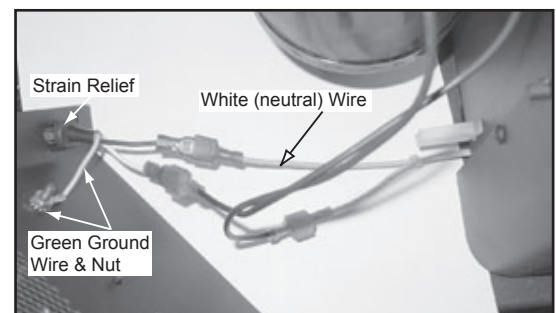

Figure 22.5
10. On the left side panel attach the power cord strain relief into the hole that is located on the lower left. Attach the ground terminal to the stud that is located nearest the power cord (**Figure 22.5**).
11. Attach the white lead (neutral) directly to one of the leads coming off the blower. Attach the other blower lead to the female spade connector to the harness that is routed under the unit. Attach the male spade connector on the harness to the black power wire (line). Route the wires into the wire clip that is located on the blower mount plate (**Figure 22.5**).